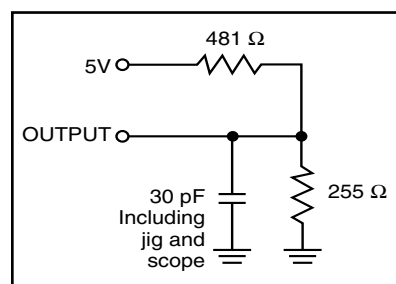

Figure 1
| Output Load                                 | See Figures 1 and 2 |
1. Test conditions assume signal transition times of 5 ns or less, timing reference levels of 1.5V, input pulse levels of 0V to 3.0V and output loading specified in Figure 1.